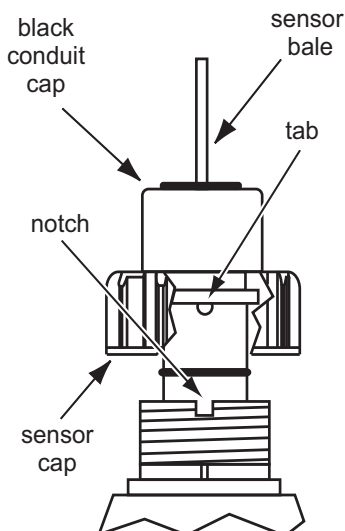

Figure 4
7. Align the tabs under the sensor cap with the notches on the fitting insert and tighten the sensor cap (Figure 4).